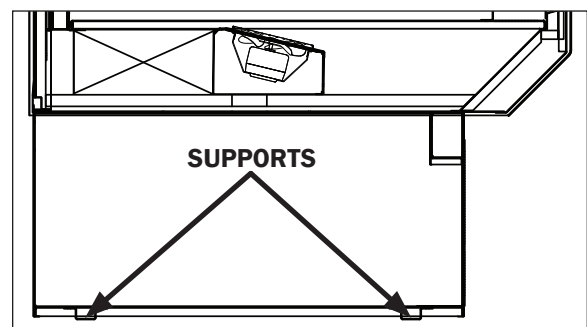

Fig. 2 Horizontal sled runner supports (CLOSED)
7. Locate horizontal or vertical (caster) support positions along the chalk line (Fig. 2 & 3). Spot properly leveled shim packs at each support location.